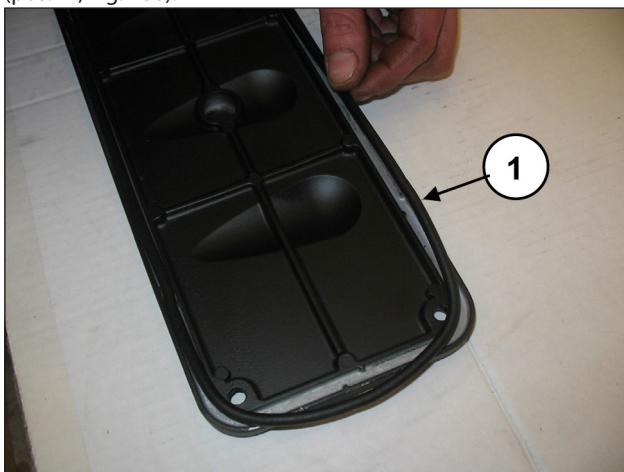
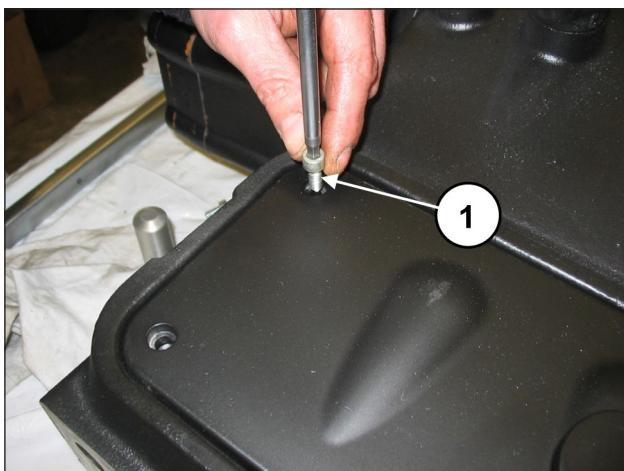

Fig. 185
Fig. 186
Insert the O-ring on the inspection covers (pos. ①, Fig. 185) and assemble the covers with the use of 4+4 M6x14 screws (pos. ①, Fig. 186).